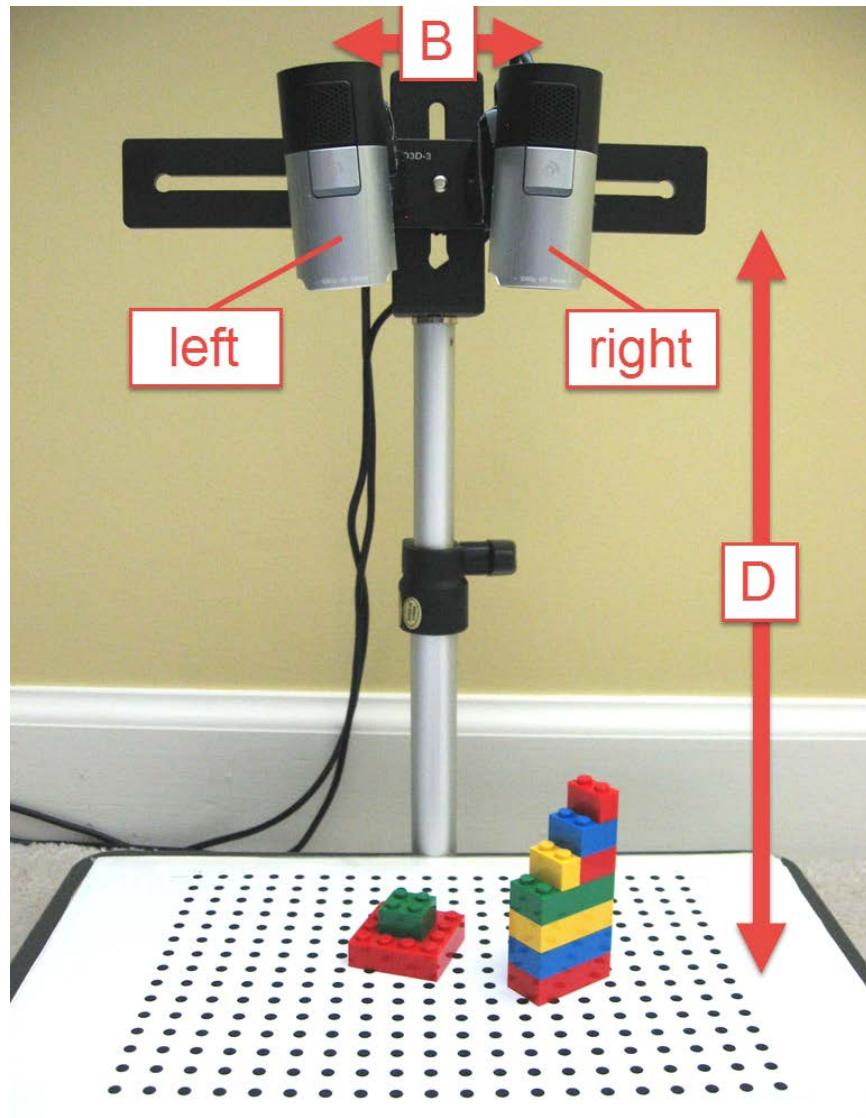

Figure 5.1: Stereo camera setup: D = camera-to-baseboard distance and B = camera baseline.
- Set up your stereo vision apparatus to match that shown in Figure 5.1. The camera-to-camera baseline distance B is 6 cm and the camera-to-baseboard distance D is 24 cm.
- ▶ Open the Calibrate Stereo Vision System (mod) VI available in the *NI myRIO Vision Essentials Guide*³ distribution file. See the video tutorial *Configure Stereo Cameras*⁴ to learn how to configure the two Vision Acquisition Express VIs for your two webcams. Figure 5.1 on the preceding page shows what is meant by the “Left” and “Right” cameras when mounted to the tabletop copy stand. Use manual settings as much as possible, especially for focus, and use 640×480 resolution.
IMPORTANT: *Think of the two cameras as your two eyes looking out towards a scene. The “left” camera is in the same position as your left eye. The Calibrate Stereo Vision System (mod) VI designates the “Left” Vision Acquisition Express VI to match the “left” camera shown in Figure 5.1 on the facing page.*
- ▶ Use plastic blocks of known thickness to build some shapes similar to those shown in Figure 5.1 on the preceding page. A “step wedge” makes a good subject to verify that the measured depth matches the true depth.